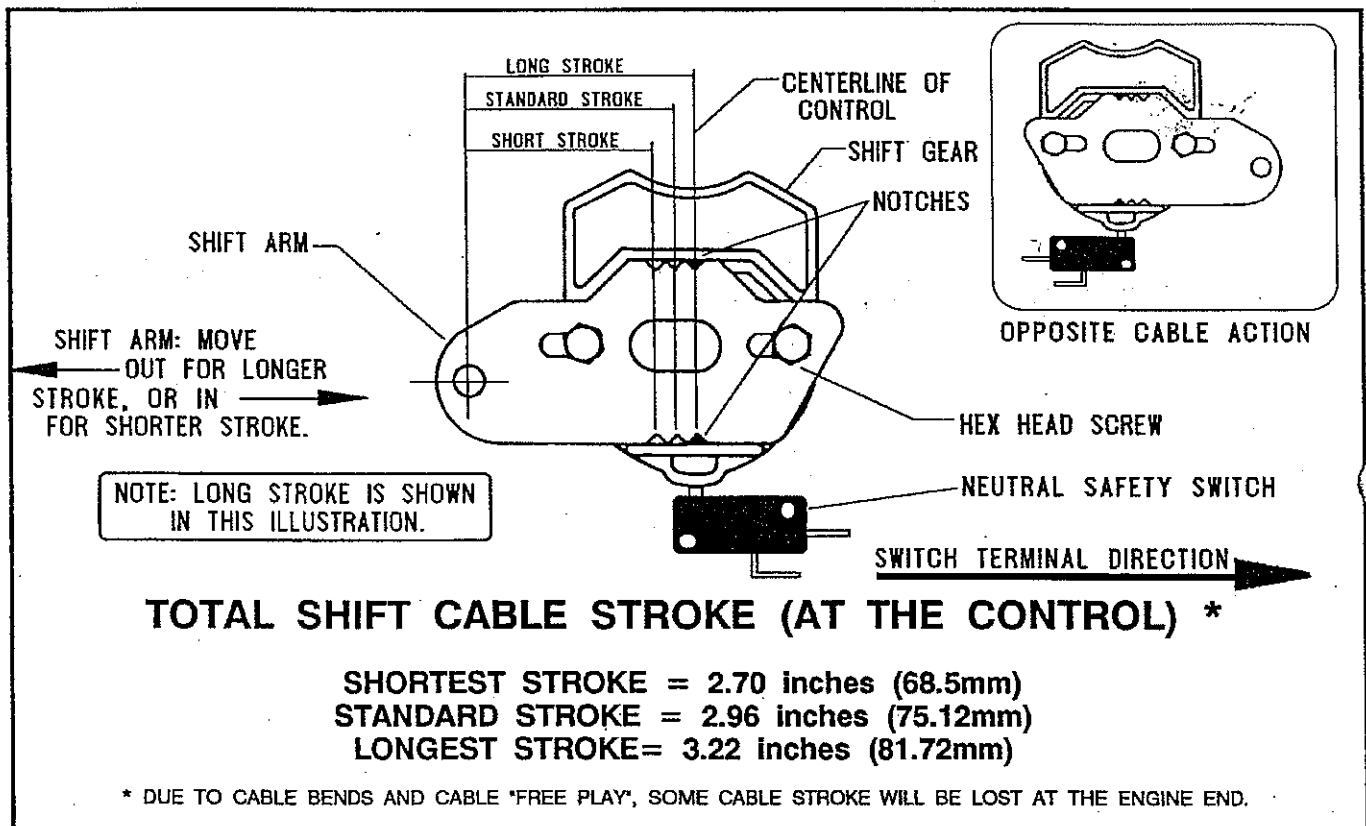

FIGURE 2
- ADJUSTABLE SHIFT STROKE TO ACCOMMODATE MOST TRANSMISSION APPLICATIONS (REFER TO FIGURE 2).
The Shift Arm is factory-set for standard travel (center notch). Refer to Figure 2.
1. Loosen the two (2) Hex Head cap Screws so the Shift Arm can be lifted to clear the notches.
2. Reposition the Shift Arm to the desired stroke. Be sure the notches are properly engaged before tightening the Screws. Refer to Figure 2.